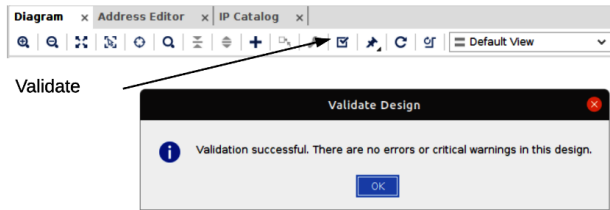

Figure 7.18 – Validate Design
6. Finally, we need to create the HDL wrapper, which will become the top level of our design (refer to *Figure 7.18*):